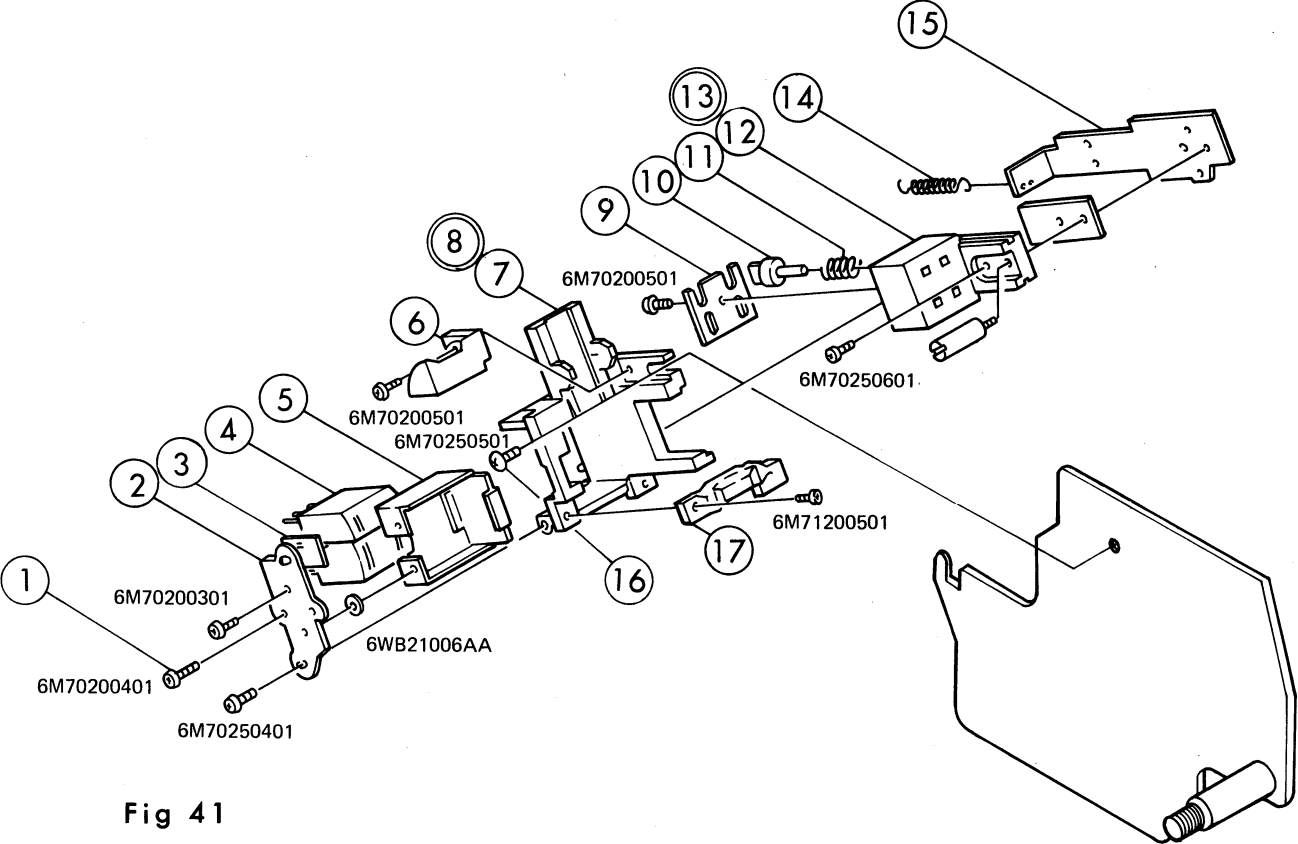
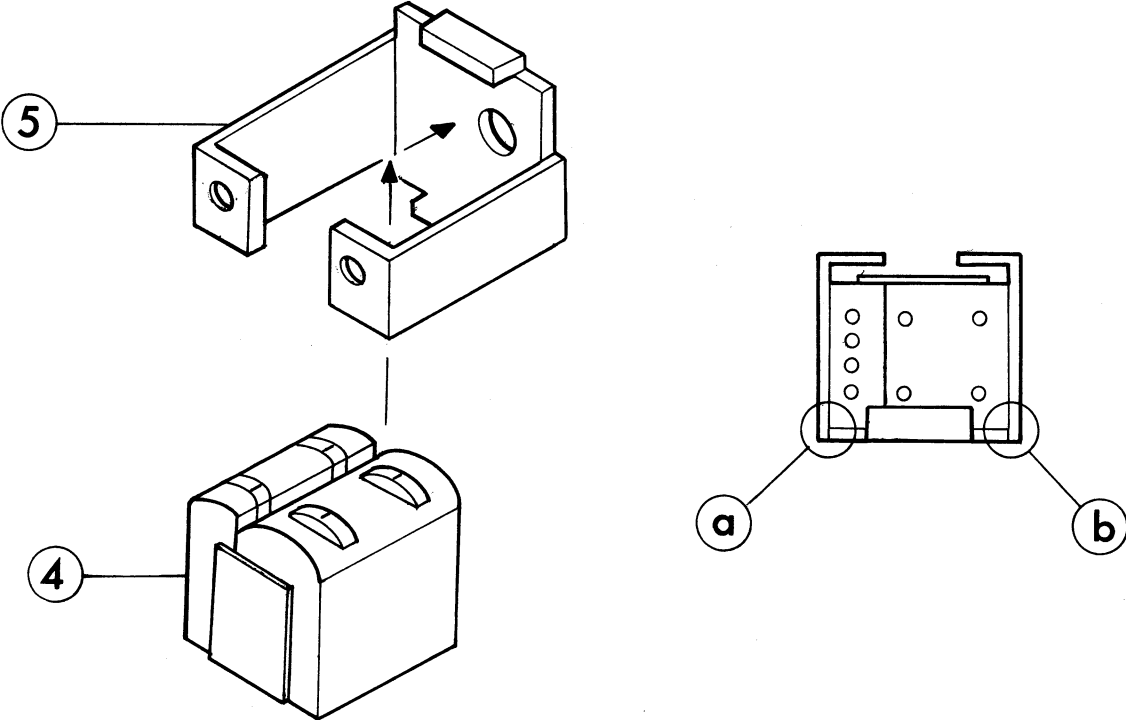

Fig 41
Fig 42
A. Disassembly Refer to Fig.41.
1. Remove (14).
2. Remove (16)x3 and take out ((8))((13)).
3. For disassembly of ((8)), refer to Fig.41.
- Defective (4); Magnetic recording/playback/erasing are faulty.
- Faulty position of (17); Film runs off the path (Film runs on (17)).
1. Glue (3) to (4) by "Cemendine 575" just under the screw holes of (1)x2.
2. To attach (4) to (5), pushing (4) in the direction of arrow in Fig.42, apply "Cemendine 575" to point Fig.42-a and "Alon Alpha" to point Fig.42-b respectively.
- └ Malfunction of (10); Faulty recording and playback sound
- └ Faulty pressure adjustment of (11); Wow-Flutter, Low output
1. To reassemble, refer to Fig.41. Make sure that (10) moves smoothly. The pressure of (11) should be at 15 - 20g. For measurement, use a spring scale (C043).